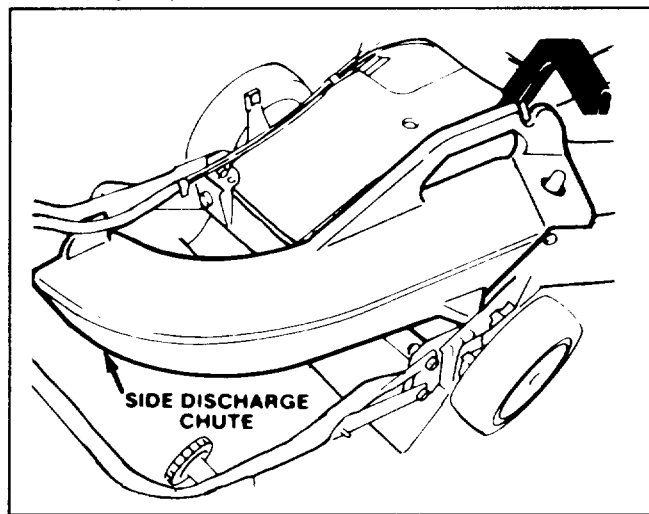

Figure 22
2. Side Discharge Kit, Model No. 59189—Requires installation of Rear Bagging Kit, Model No. 59174. Installs in seconds. Rear mounted in place of the grass bag. Disperses clippings while trimming on both sides (Fig. 22).